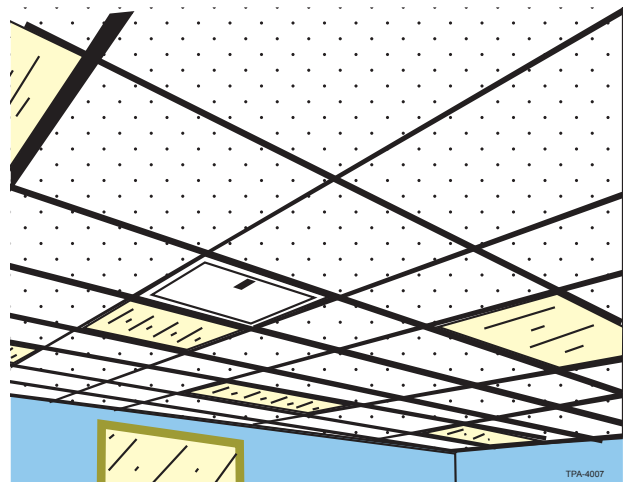

Figure 13
Step 11: Reinstall the ceiling panels / tiles to complete the installation (Figure 13). Ensure that the door is properly closed and locked to prevent unauthorized access and harm from the door swinging down.